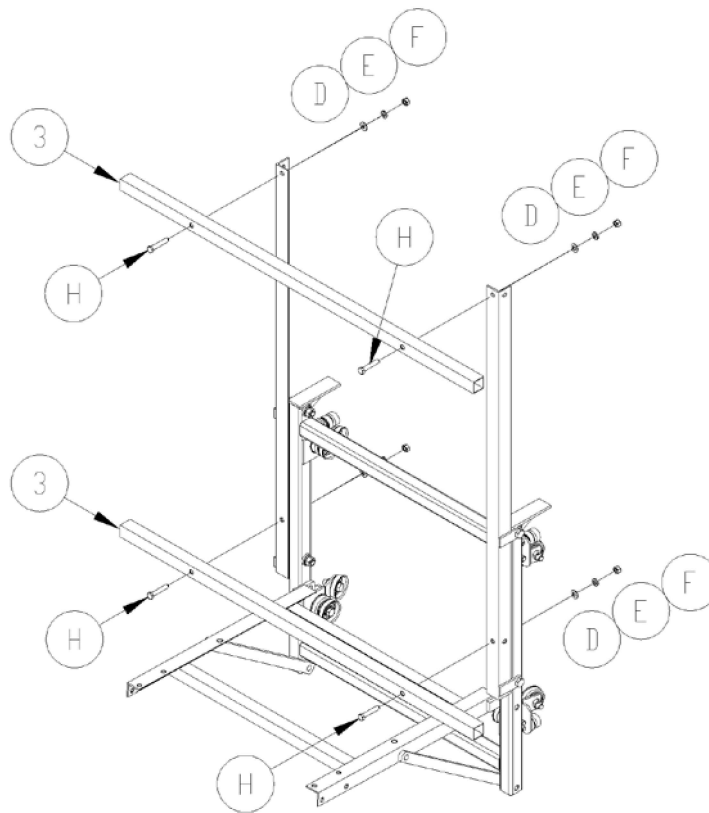

Figure2
3. With the frame angles in place, mount the support tubes (3) as shown in Figure 2. Finger-tighten the hardware.